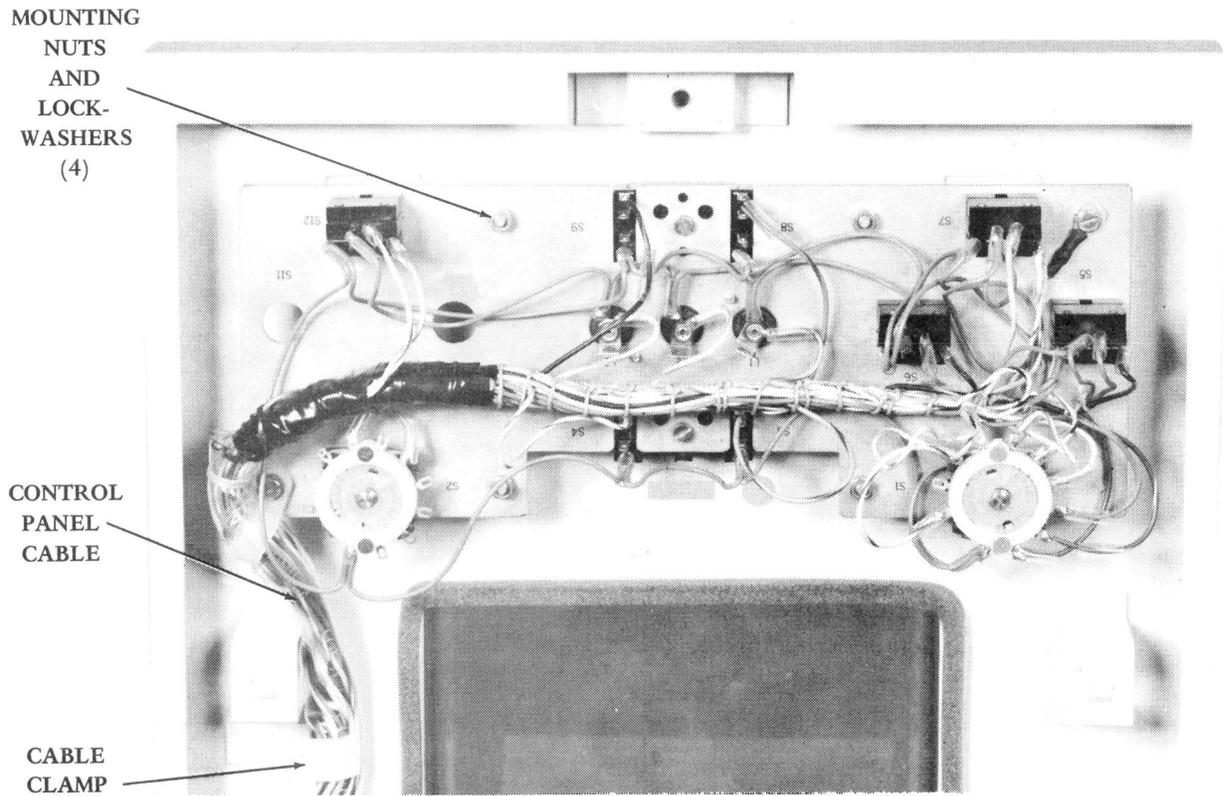

Figure 11 - Control Subpanel
- (1) Loosen the setscrews on the rotary switch knobs, and remove the rotary switch knobs from the panel.
- (2) Remove the TP162730 screw, TP2449 lockwasher, and TP76081 flat washer (underside of flange at top of cabinet) that hold the cabinet top closed.
- (3) Raise and latch the cabinet top.
- (4) Separate connector P311 of the control subpanel cable from connector J311 of the TP337373 cable assembly by loosening the connector mounting screws. Remove control panel cable from behind cable clamp (Figure 11).
- (5) Remove four each TP3598 nuts and TP2191 lockwashers from the threaded posts which engage the control subpanel, and remove the subpanel from the cabinet top.